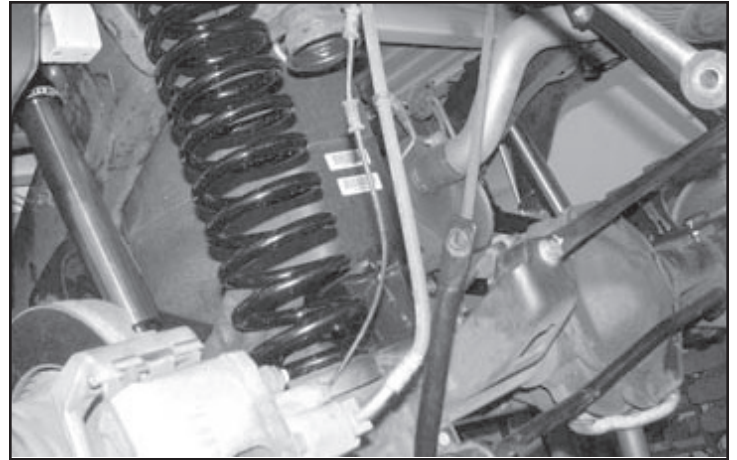

FIGURE 50 - STEP 68
68. Install the Fabtech coil springs FT50302BK using the factory coil isolator. **SEE FIGURE 50**